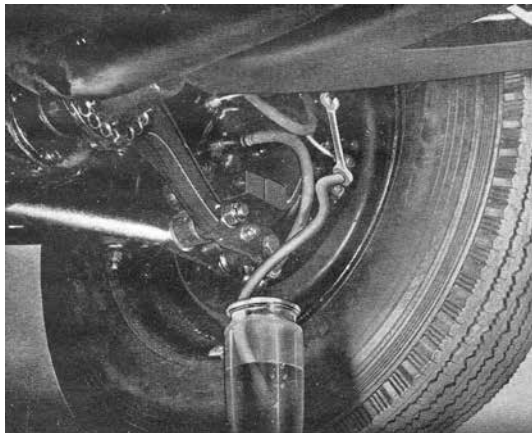

Figure L.8. Bleeding the front brakes.
2. Remove the dust cover, fit one end of a bleed tube over the nipple and immerse the free end in a clean glass jar containing a small quantity of fluid. See Figure L.8.